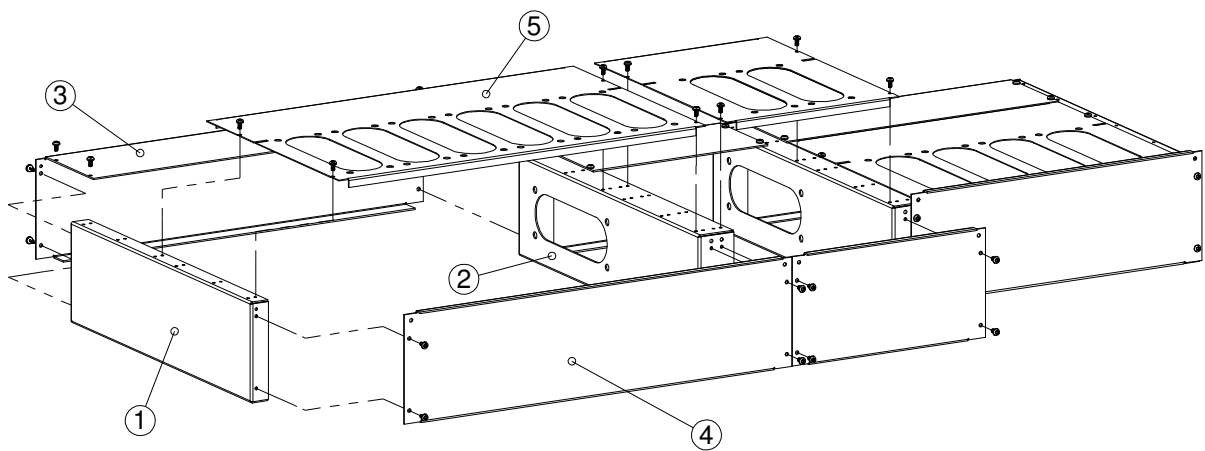

Fig. 2.1 Assembling F-serie cell centre base. The base is assembled to form a line according to the sections.
There are two base heights for the F-serie cell centres: 40 mm and 140 mm. Assembly of base is started by fastening the back (3) and front (4) plates to the base ends (1) and dividers (2). Then the base bottom plate (5) is fastened in place, see Fig. 2.1.